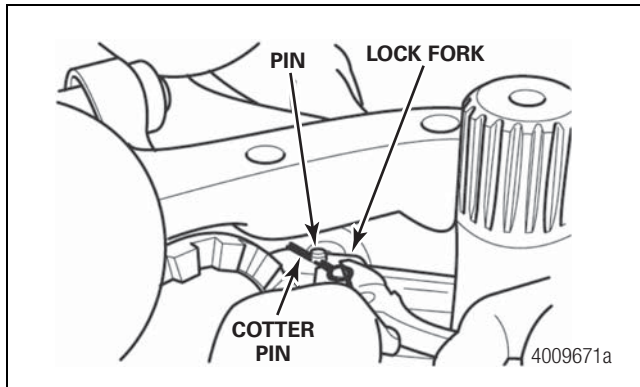

Figure 6.13
10. Align the shift fork with the pushrod (selector bar) holes and install the clevis pin through the fork. Install the cotter pin through the clevis pin. Figure 6.13.